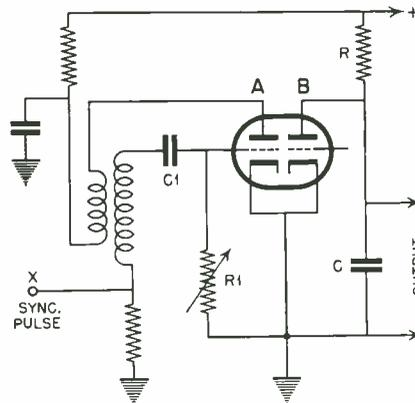
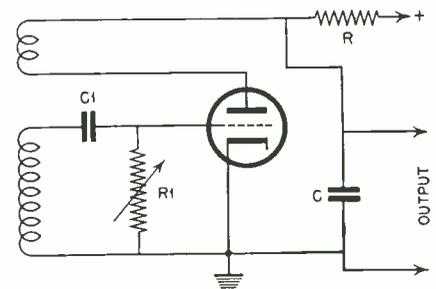
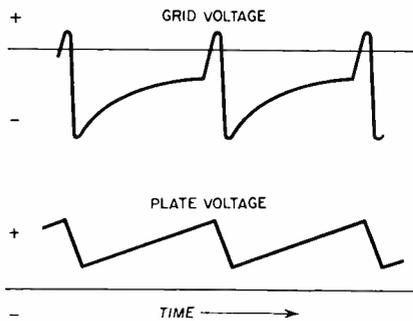

Fig. 2. Blocked-oscillator sweep circuit used in RCA television receivers.
Fig. 3. Single-tube blocked-oscillator sweep circuit, otherwise the same as Fig. 2.
Fig. 4. Voltage waveform of Fig. 3 circuit.
the phase-modulated current contains a carrier [$A \cos (\omega t + \theta)$] of constant amplitude, frequency and phase; two first-order sidebands [$AK\theta \sin (\omega t + \theta) \cos pt$] essentially similar to those of expression (2); together with a number of higher order sidebands consisting of the carrier modulated by harmonics of the signal frequency. See Fig. 2. Here it may be recalled that:
The quantity M is usually referred to as the modulation index and may be compared, with certain reservations, to percentage modulation in amplitude modulation. Of course the modulation index can be and frequently is greater than unity, whereas percentage modulation (K) never exceeds unity. Like phase-modulated currents, frequency-modulated currents consist of several sets of sidebands. See Fig. 3.
Fig. 3. Signal distribution for frequency-modulated wave with constant frequency variation for two modulation frequencies. Frequency deviation constant. Only important energy-bearing sidebands shown.
Fig. 2. Signal distribution for phase-modulated wave with constant phase variation for two modulation frequencies. Phase deviation constant. Only important energy-bearing sidebands shown.
Several variations and refinements of this system are in use. In Fig. 2, it is shown how this arrangement is employed in the RCA television receivers TRK-9 and TRK-12.
It is possible to have the two jobs which are performed by tubes *A* and *B* in Fig. 2, done by a single tube, as in Fig. 3. The same tube serves both as oscillator and as discharge tube. The action is practically the same as described above. Condenser *C* charges and is periodically discharged as the tube breaks into oscillation. Waveforms of the grid voltage and plate voltage are shown in Fig. 4.